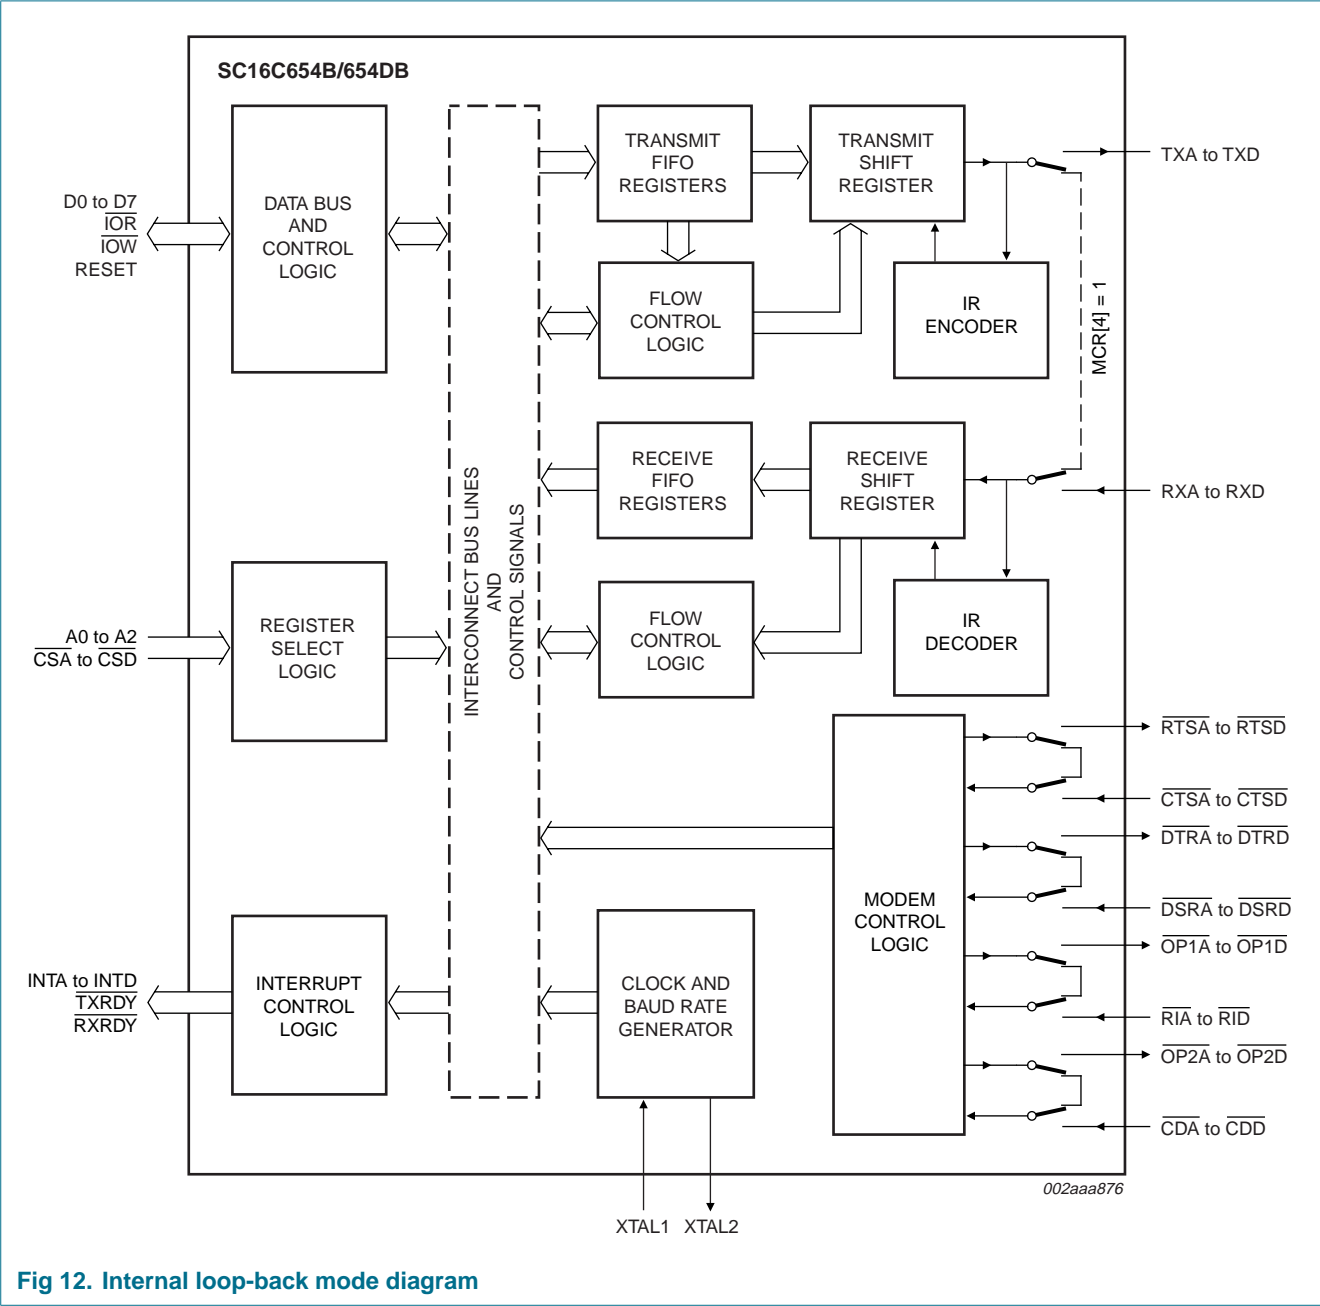

Fig 12. Internal loop-back mode diagram
The internal loop-back capability allows on-board diagnostics. In the loop-back mode, the normal modem interface pins are disconnected and reconfigured for loop-back internally. MCR[0:3] register bits are used for controlling loop-back diagnostic testing. In the loop-back mode, OP1 and OP2 in the MCR register (bits 2:3) control the modem $\overline{\text{RI}}$ and $\overline{\text{CD}}$ inputs, respectively. MCR signals $\overline{\text{DTR}}$ and $\overline{\text{RTS}}$ (bits 0:1) are used to control the modem $\overline{\text{DSR}}$ and $\overline{\text{CTS}}$ inputs, respectively. The transmitter output (TX) and the receiver input (RX) are disconnected from their associated interface pins, and instead are connected together internally; see Figure 12. The $\overline{\text{CTS}}$, $\overline{\text{DSR}}$, $\overline{\text{CD}}$, and $\overline{\text{RI}}$ are disconnected from their normal modem control input pins, and instead are connected internally to $\overline{\text{RTS}}$, $\overline{\text{DTR}}$, OP2 and OP1. Loop-back test data is entered into the transmit holding register via the user data bus interface, D[0:7]. The transmit UART serializes the data and passes the serial data to the receive UART via the internal loop-back connection. The receive UART converts the serial data back into parallel data that is then made available at the user data interface D[0:7]. The user optionally compares the received data to the initial transmitted data for verifying error-free operation of the UART TX/RX circuits.